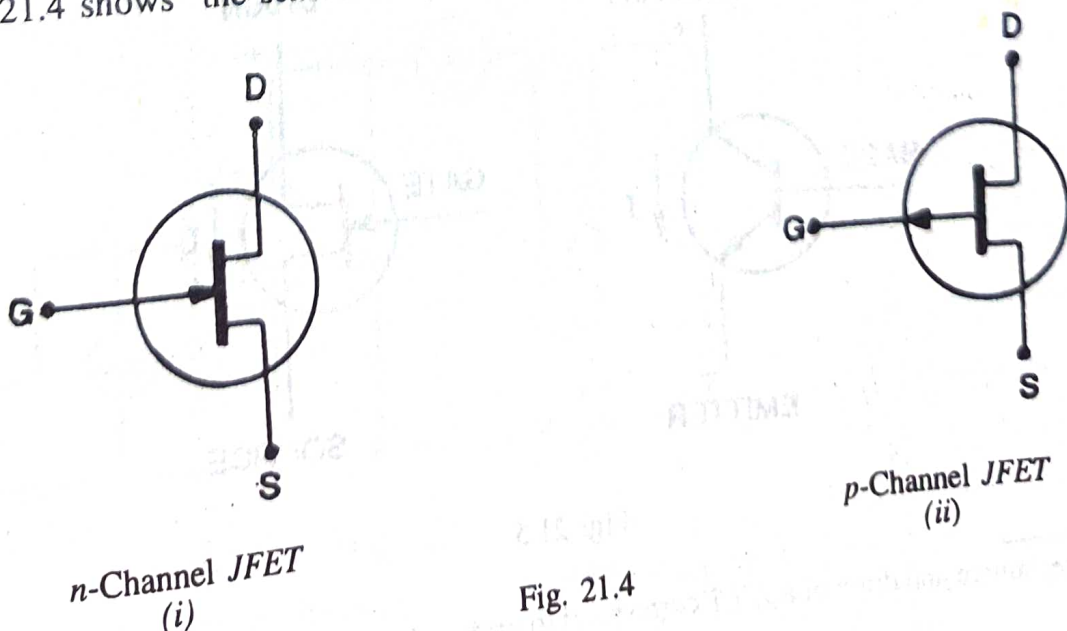

Fig. 21.4
Fig. 21.4 shows the schematic symbol of  $JFET$ . The vertical line in the symbol may be
thought as channel and source(S) and drain (D) connected to this line. If the channel is  $n$ -type, the arrow on the gate points towards the channel as shown in Fig. 21.4 (i). However, for  $p$ -type channel, the arrow on the gate points from channel to gate. [See Fig 21.4 (ii)].